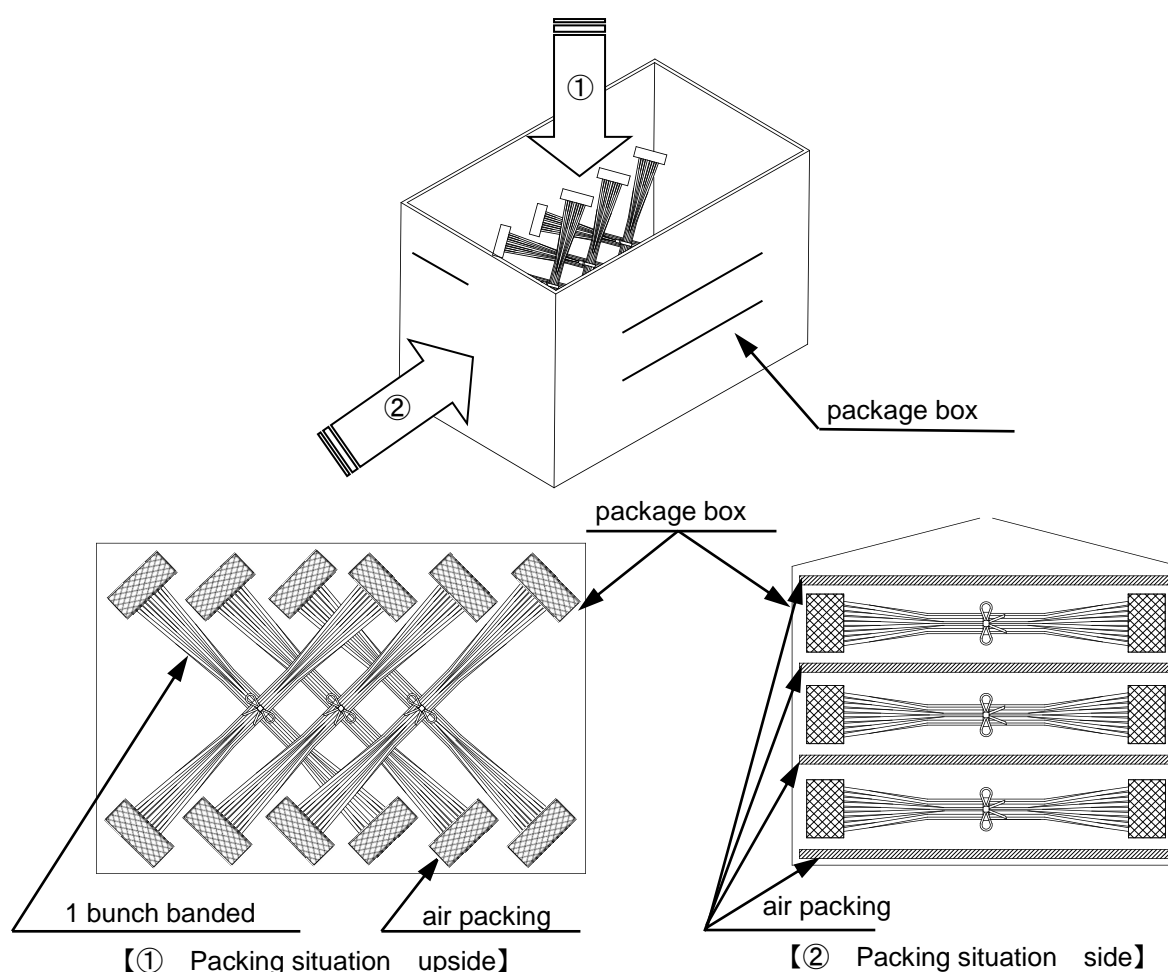

Fig.8-2 Packaging situation
Below figure(**Fig 8-2**) is one of examples recommended reference. Please take measure not to add force to connector for long time by stacking if you pack with another packing method for long harness.
(**Fig.8-2 ①**)
※Please lay air packing etc. on package box underside. In order that force by piling package boxes etc. is not added to connector for long time, please lay air packing etc. (**Fig.8-2 ②**)